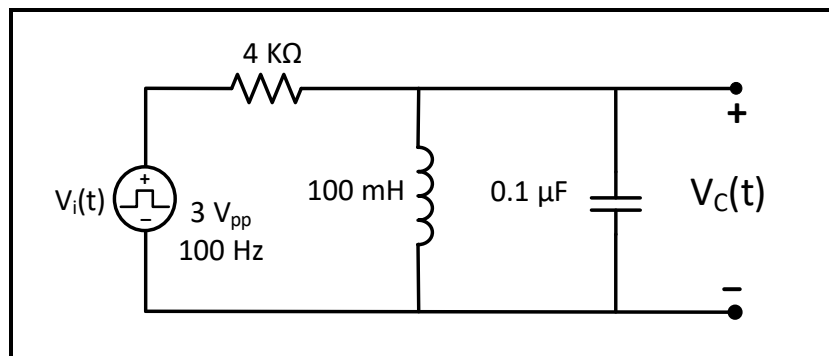

Figure 7.6
For the circuit of Figure 7.6:
1. Connect the circuit in Figure 7.6, keeping the previous setting of the function generator (Square wave output, 3 V_{pp}, DC offset 1.5 V, $f = 100$ Hz), **(Use decade box for R).**